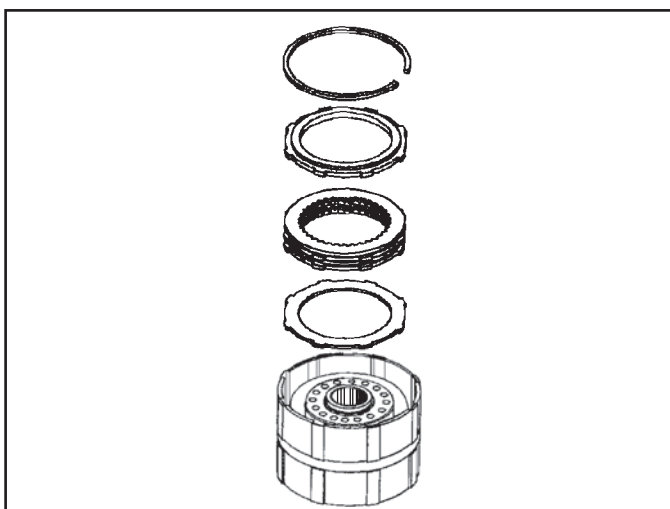

Figure 113
2. Install the apply plate into the clutch housing with the fiber side facing up. Install all clutch plates starting with an internally splined plate first, alternate plates with the fiber side facing up (See Figure 113). There is a total of five internally splined and four externally splined fiber plates in this pack.
3. Install the clutch backing plate and selective retaining snap ring (See Figure 113).